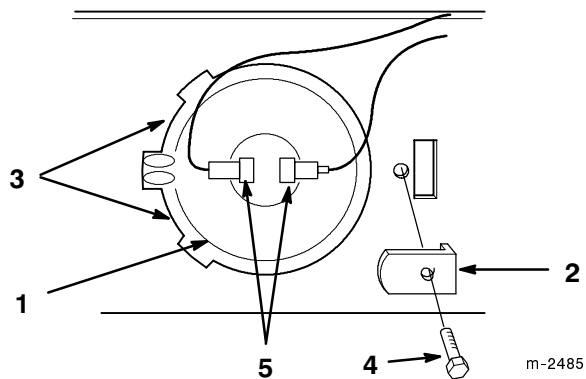

Figure 36
3. Remove screw securing retainer bracket (Fig. 36).
4. Lift and twist bulb out of pocket (Fig. 36).
1. Locate index boss horizontal and twist bulb under tabs on left side of pocket (Fig. 36).
2. Hold bulb in socket with retainer bracket and secure with screw (Fig. 36).
3. Push wire connectors onto bulb terminals (Fig. 36).